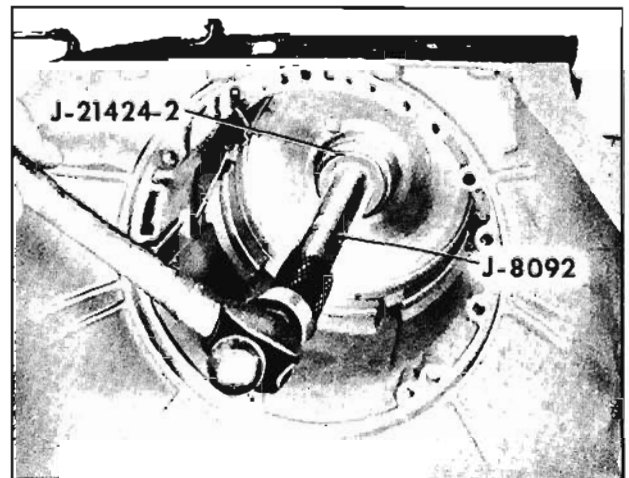

Fig. 6-306 Installing Case Bushing
2. Install case bushing. (Fig. 6-306)